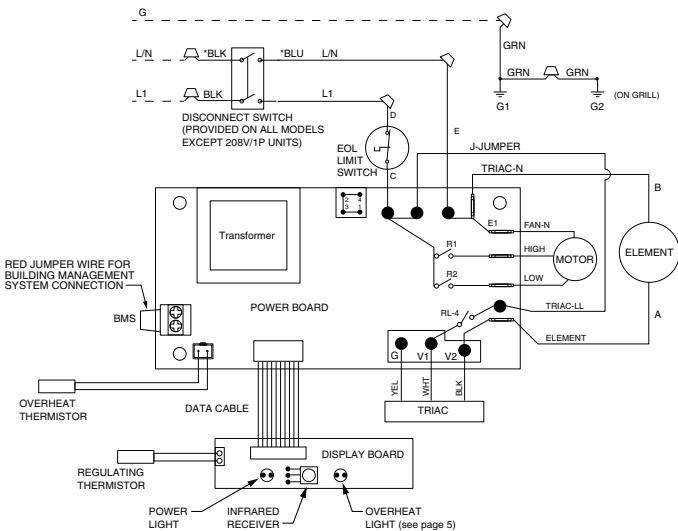
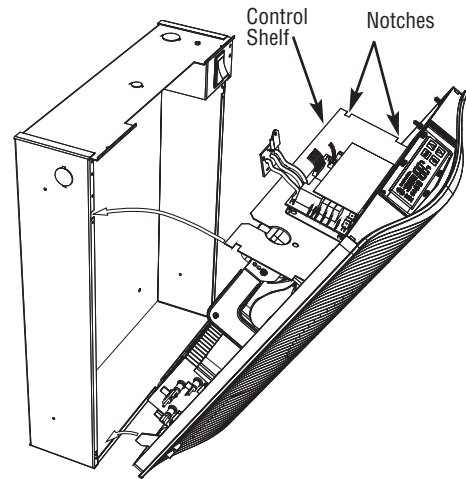

Figure 3- Wiring Diagram
Figure 4- Installation of Heater/Grille Assembly
- Insert power supply cable through cable clamp, allowing at least 6" (152 mm) of leads to extend inside the back box. Connect the blue lead wires of disconnect switch to the supply wire leads using wire connectors (see Figure 4, Wiring Diagram).
To utilize the BMS capabilities of this unit, remove the red jumper wire between terminals A and B on the control terminal board (see figure 3, wiring diagram). Connect two wires from a dry contact (no voltage) in the BMS system to terminals A and B.
2. Position the grille in front of the heater assembly, insert the control shelf edges into the notches on either side of the back box at the same time hooking the tabs on the bottom corners of the grille assembly over the bottom flange of the back box (see Figures 4 and 5). With the top of the grille assembly leaning forward, supported by the first notch in control shelf, extend the control wires from the back of the electronic control at the top of the grille and connect to the wires of the disconnect switch assembly according to Wiring Diagram Figure 3.